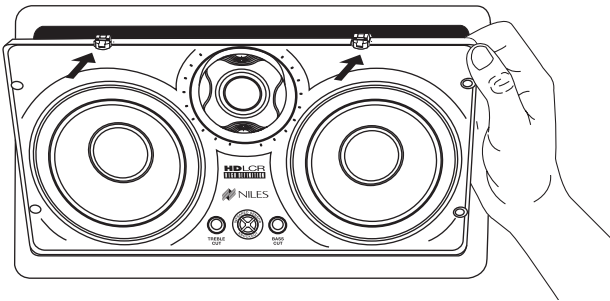

Figure 16. Installing the speaker baffle into its frame.
4. Install the speaker baffle into its frame by inserting the tabs at the base into the corresponding holes in the frame and pushing the speaker forward until the snaps engage, as shown in **Figure 16**.